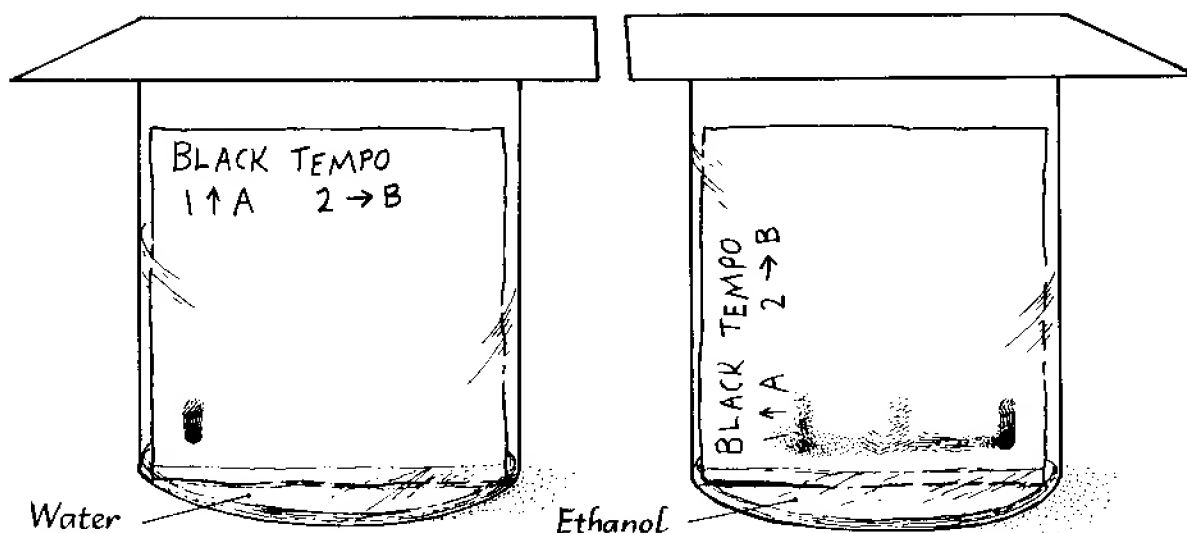

Figure 3.2 Using two solvents
4. Put a depth of 5 mm of the second solvent into another beaker, lower the paper in with the colour trace near to the bottom and cover the beaker (see Figure 3.2).